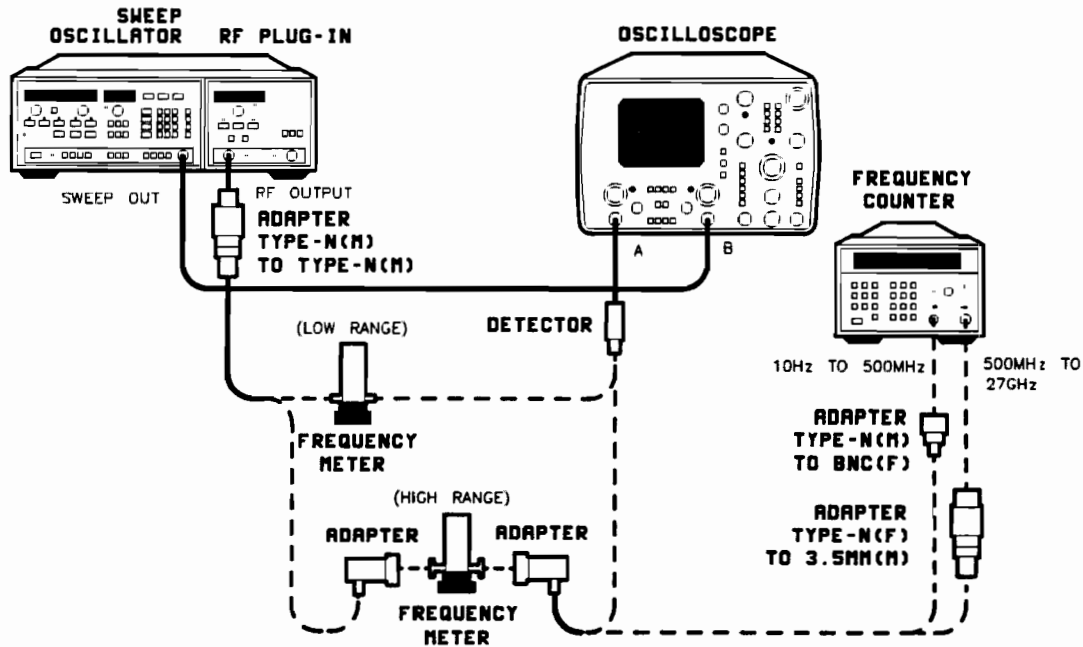

Figure 4-1A. Alternate Swept Frequency Accuracy Test Setup
- 1A. Connect equipment as shown in Figure 4-1A. Use the frequency meter necessary to cover the tested frequency range of the HP 83592A.